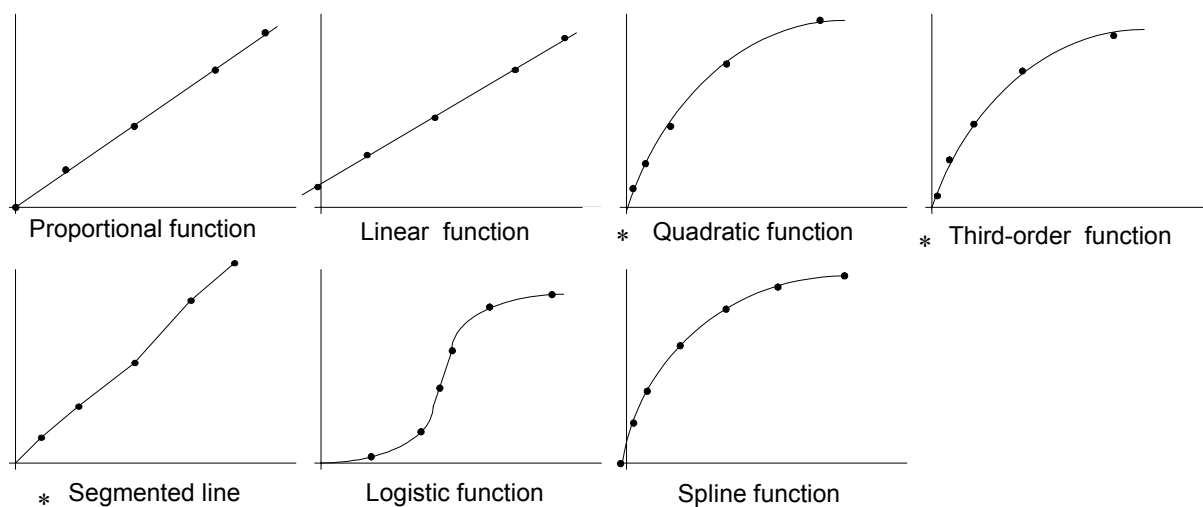

Figure 5.2 Calibration Curve Mode
(2) The optimum calibration curve can be selected from the modes shown in Fig.5.2.